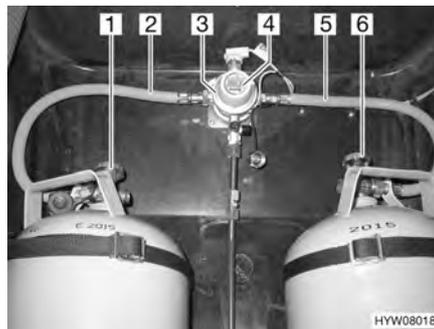
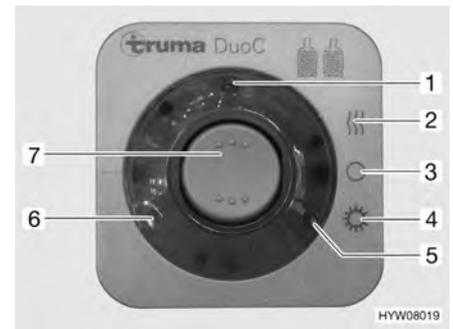

Fig. 98 DuoControl switching facility
Fig. 99 Operating unit
The DuoControl switching facility consists of a reversing valve (Fig. 98,3) and an operating unit (Fig. 99). The reversing valve is installed between the gas tubes (Fig. 98,2 and 5). The knob (Fig. 98,4) on the reversing valve is used to select which of the gas bottles is to be used as a primary bottle and which is to be used as a reserve bottle.
Only the electrical functions can be switched at the operating unit (Fig. 99). The regulator taps on the gas bottles (Fig. 98,1 and 6) must be opened manually.
The reversing valve provides a constant gas pressure, regardless of which gas bottle is being drawn upon. The two indicator lamps on the operating unit indicate the level of the primary bottle. When the green indicator lamp (Fig. 99,6) illuminates, the primary bottle is full. When the red indicator lamp (Fig. 99,5) illuminates, the primary bottle is empty. In this case, the reserve bottle is used for the gas supply.
- Open the regulator taps on the gas bottles (Fig. 98,1 and 6).
- Use the knob (Fig. 98,4) on the reversing valve (Fig. 98,3) to select the gas bottle which is to be the primary source of gas (primary bottle). Always turn the knob as far as it will go.
- Switch on the DuoControl switching facility at the operating unit (Fig. 99). To do so, set the rocker switch (Fig. 99,7) to winter operation "On and heating" (Fig. 99,2) or to summer operation "On" (Fig. 99,4). The reversing valve is now deaerated. The yellow indicator lamp (Fig. 99,1) illuminates if the winter operation has been selected and the regulator defroster is activated.
- Set the rocker switch (Fig. 99,7) to "O" (Fig. 99,3). The yellow indicator lamp (Fig. 99,1) goes out.
- Close the regulator taps on the gas bottles (Fig. 98,1 and 6).
The indicator lamps on the operating unit (Fig. 99,5 and 6) indicate in the vehicle interior whether the primary bottle is ready for operation.
If the green indicator lamp (Fig. 99,6) stops illuminating during operation and the red indicator lamp (Fig. 99,5) illuminates, the gas bottle selected as primary bottle is empty and needs to be changed. The reserve bottle continues supplying the gas appliances with gas.